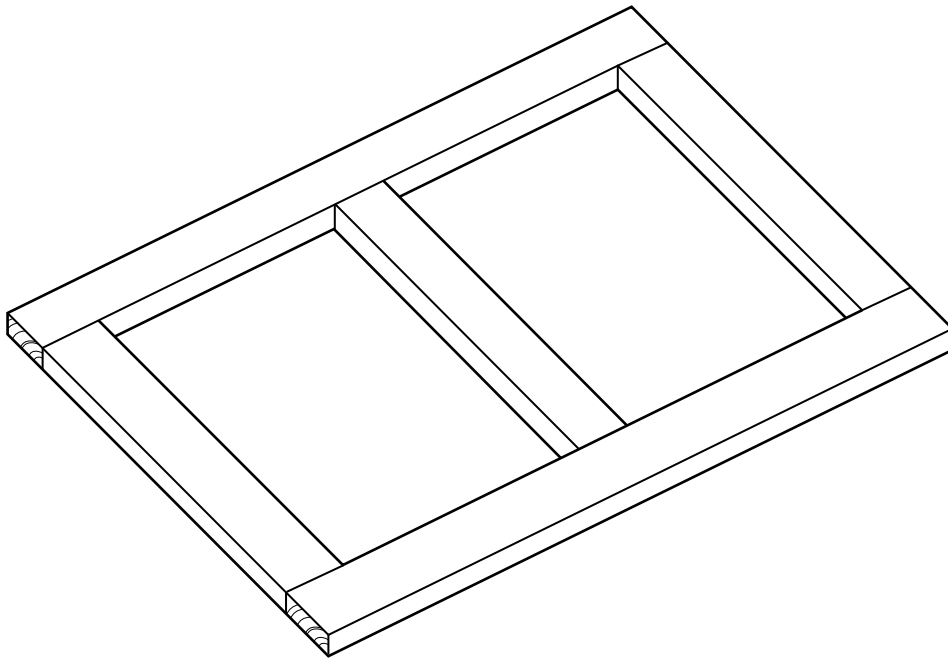

Fig. 7
(c) Fig. 7 shows the frame ready to be clamped and glued together.
- (i) Add sketches and notes to Fig. 7 to show how the frame would be clamped while the glue sets. Name the type of cramps used. [3]